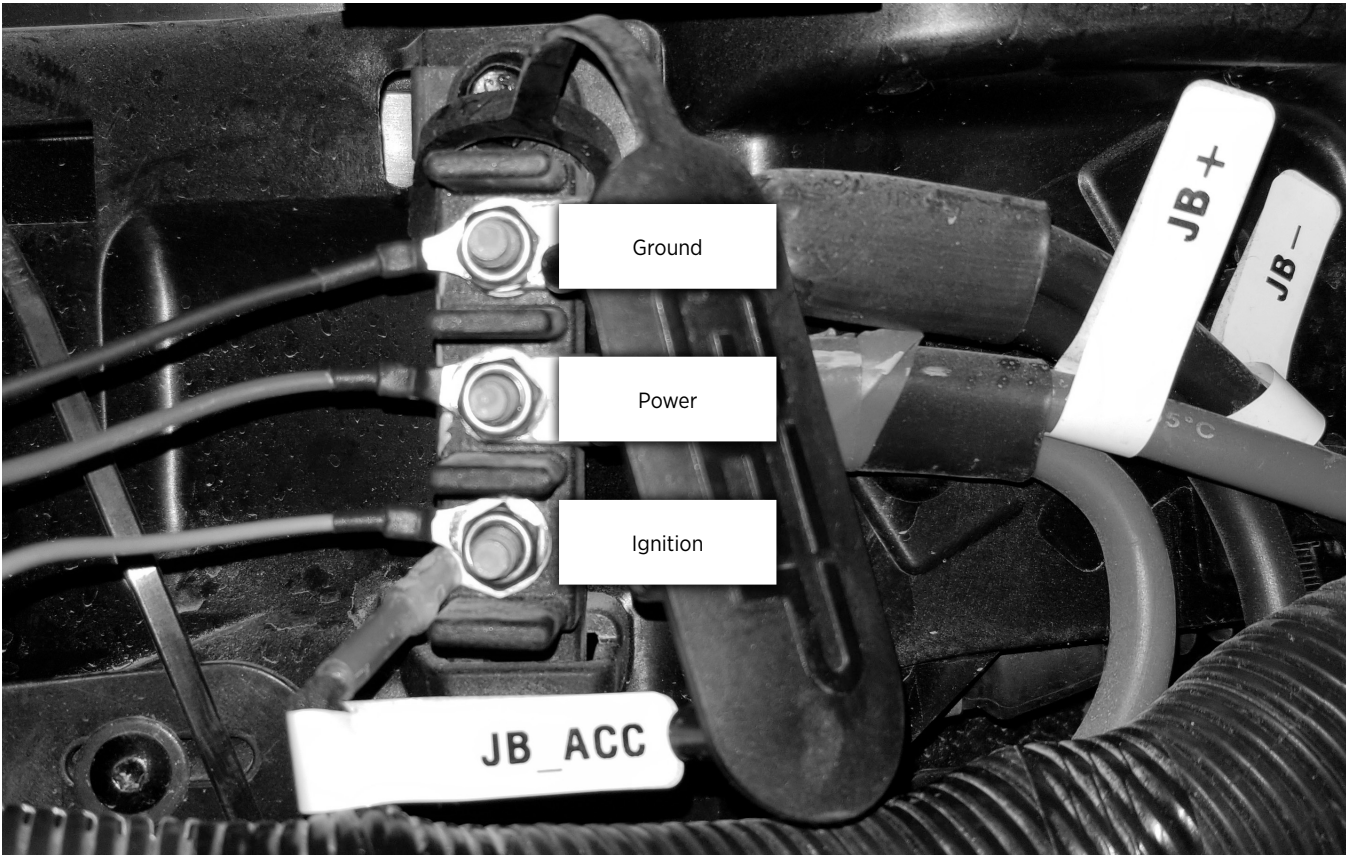

Figure 13b: Shows the iQS power, ground and ignition leads properly installed.
2. Using a 10mm socket wrench, remove the nut holding the OEM power connection, install the iQS power lead, and re-install the nut (Figure 13b). Torque hardware per manufacturer's recommendation.